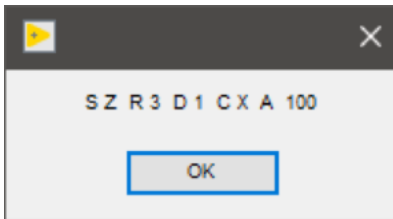

Figure 39- Degausser status window
- **Get Status:** Ask the degausser for its status and display the results. See the degausser manual for specifics on what each of these codes means (**Figure 39**).